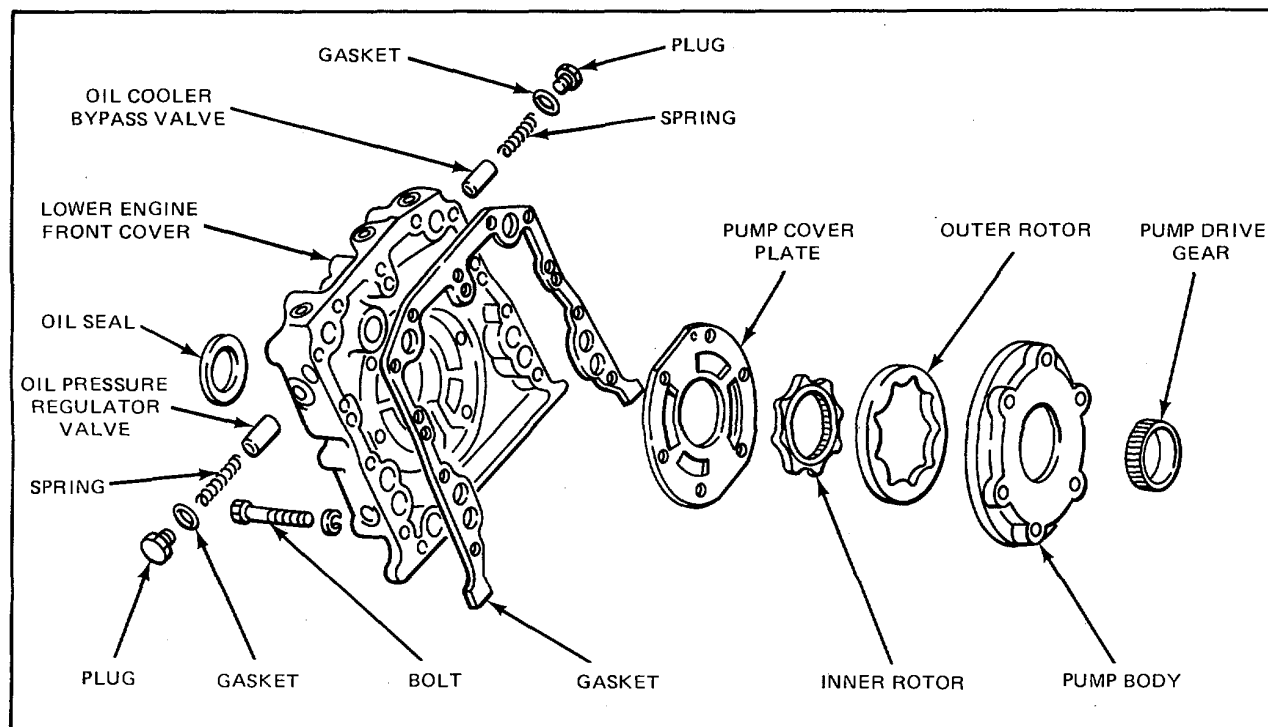

Figure 5. Oil Pump Details and Relative Location of Parts (Current)
1. Refer to Fig. 5 or 6 and remove the two drive screws holding the pump cover plate to the pump body. Withdraw the cover plate from the pump body.
After the oil pump parts have been cleaned and inspected, refer to Fig. 5 or 6 and assemble the pump as follows: